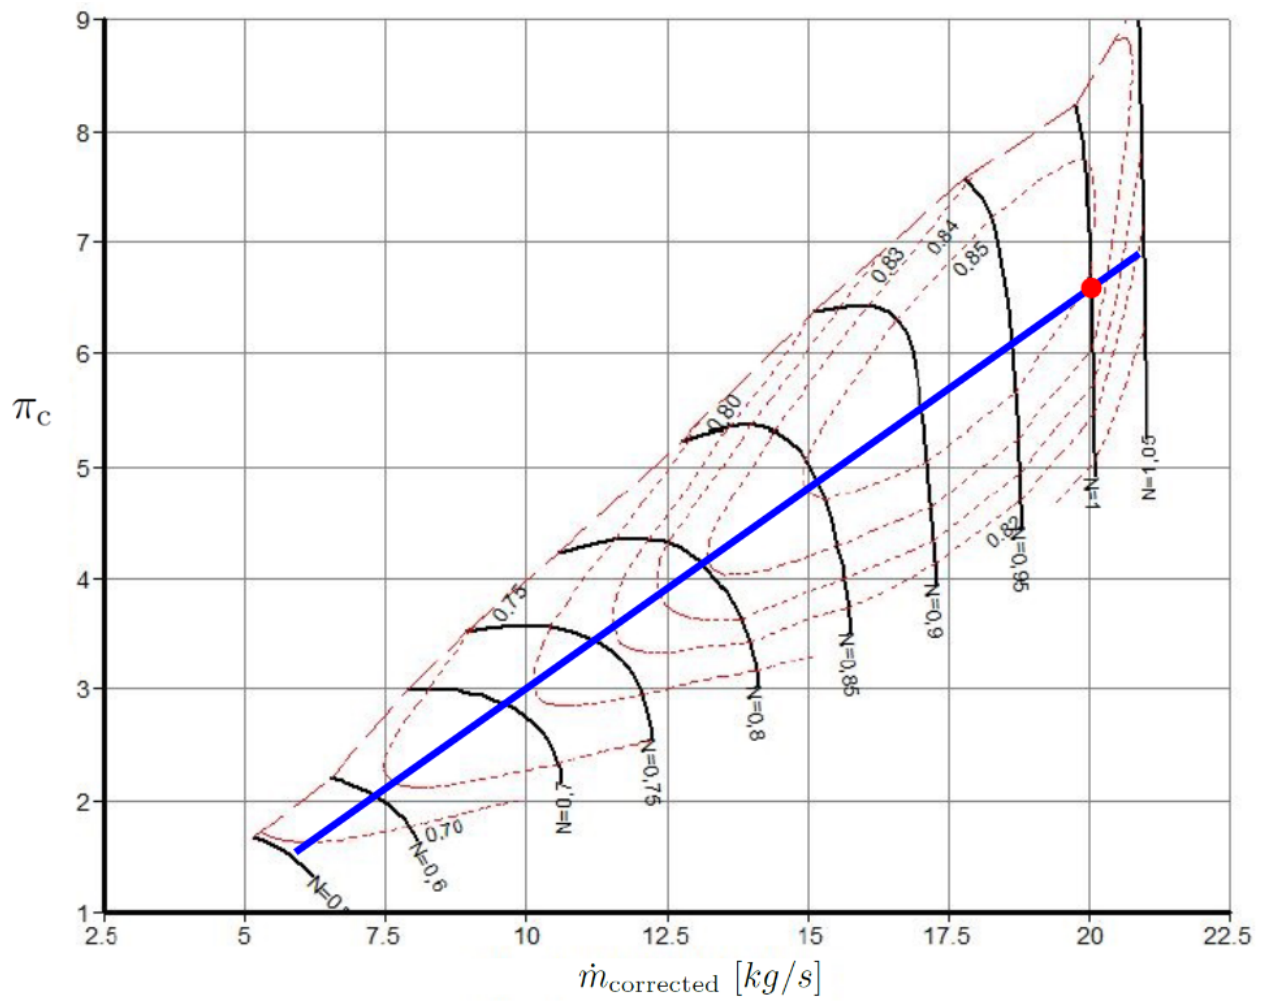

Figure 1: High pressure compressor (HPC) map. The blue line indicates the operating line while the red dot denotes the design point.
- ii. **Engine mass flow**. For that use the design point according to figure **Figure 1**.
- For the HPC, consider the design point given in Figure 1 and obtain its pressure ratio and efficiency from there.
- ii. $\dot{m}_{core}$ and η_{HPC} change according to the operating line on Figure 1.
Change π_{HPC} only within the limits of Figure 1. With respect to π_{LPC} , change at your discretion, within reasonable limits of OPR. Also remember to indicate the design point in the heatmaps.